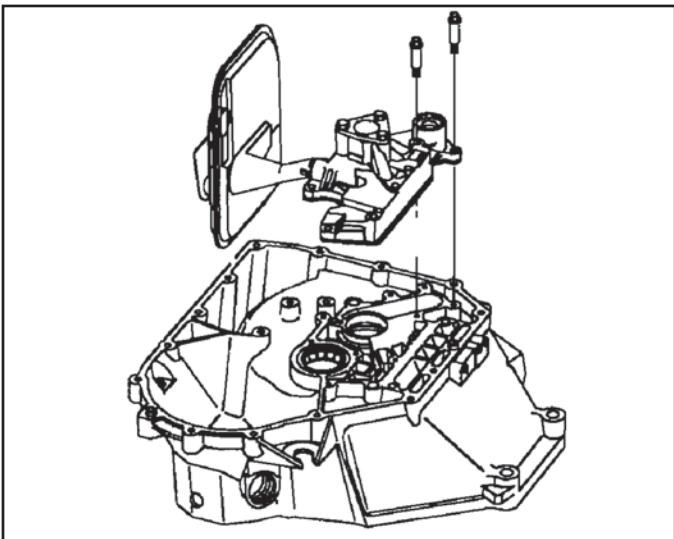

Figure 154
- If installing a new internal filter, transfer the magnet and retaining spring from the old filter. Remove the old seal from the pump housing and install a new seal and filter (See Figure 154).
- Install the pump and filter assembly. Make sure all components are clean. Use care not to allow the pump drive gear to catch or scratch the converter housing surface (See Figure 154).